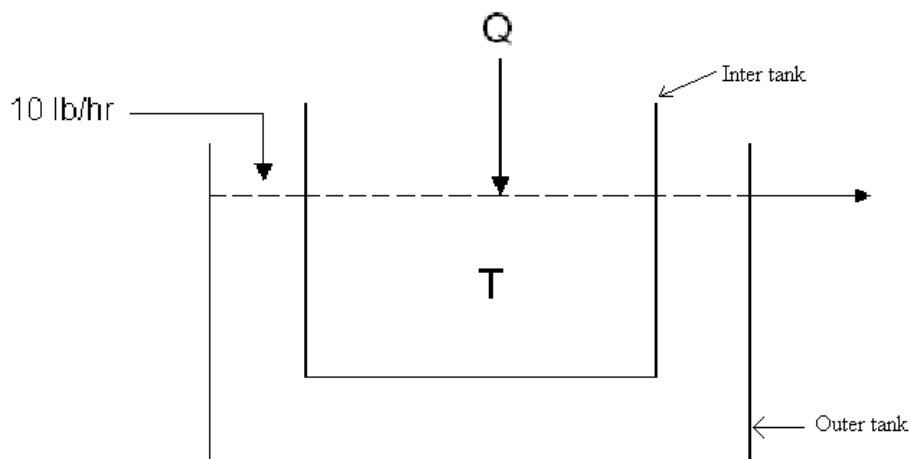

Figure 3
3. The heat transfer equipment shown in figure 3 consists of two tanks one nested inside the other. Heat is transferred by convection through the wall of inner tank. The contents of each tank are well mixed. The following data and information apply: